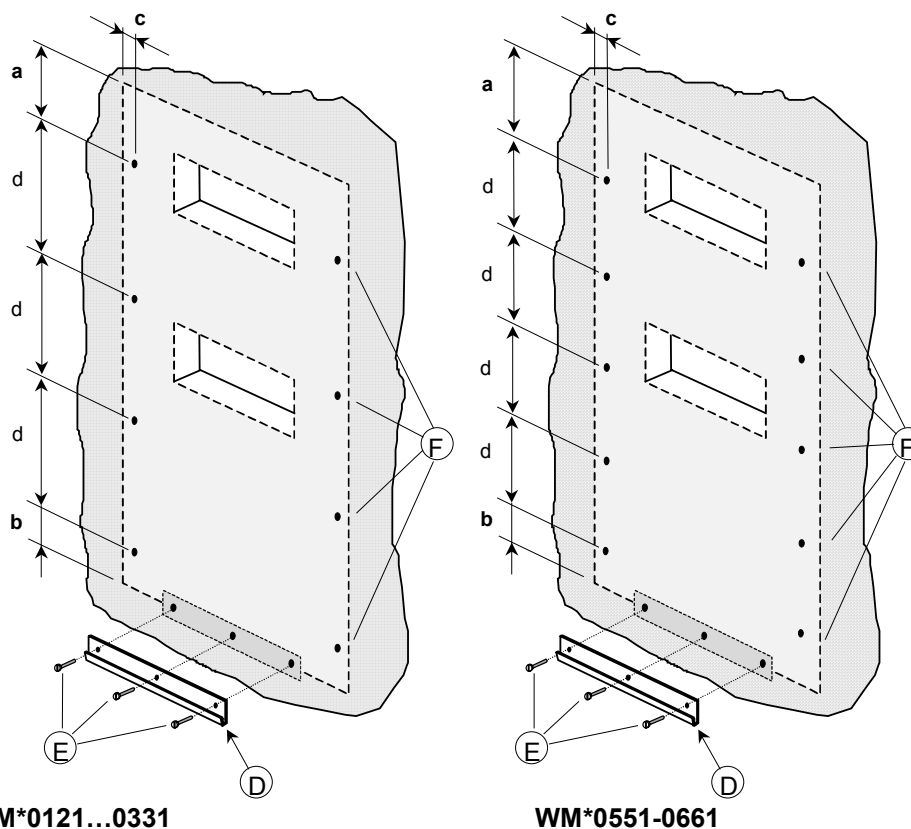

Fig. 12.
7. Fix unit support bracket **D** with three screws **E** (see fig. 12. - 14.);